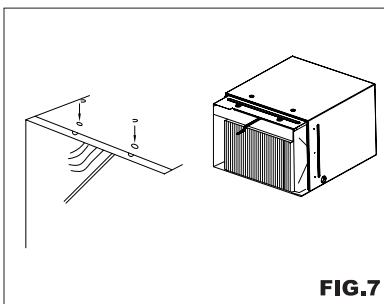

FIG.7
- Remove shipping screws from top of unit (See FIG.7). Hold the cabinet while pulling on the base handle, and carefully remove the unit.